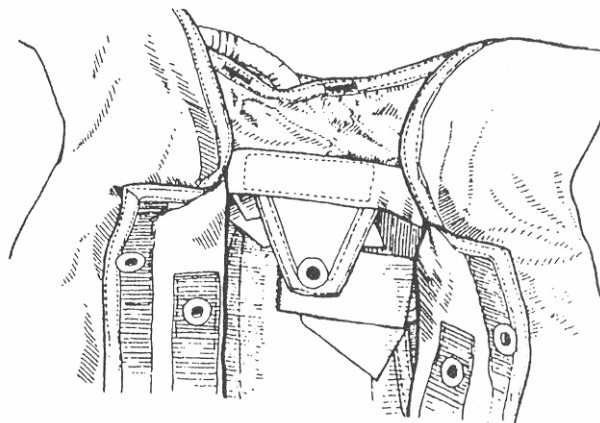

Figure 5.
Step 9. Route the RSL as follows. **Note: It is very important to follow these directions exactly to avoid routing the RSL under the reserve container top flap.** Take the RSL and mate the velcro with the pile on the reserve top flap, tuck the excess lanyard under the reserve top flap. Be sure that when packing the reserve canopy that the RSL was not routed under the reserve top flap. **DO NOT PASS THE RSL UNDER THE RESERVE RISERS OR THE TOP FLAP OF THE RESERVE CONTAINER.** (see Figure 5 & 6)